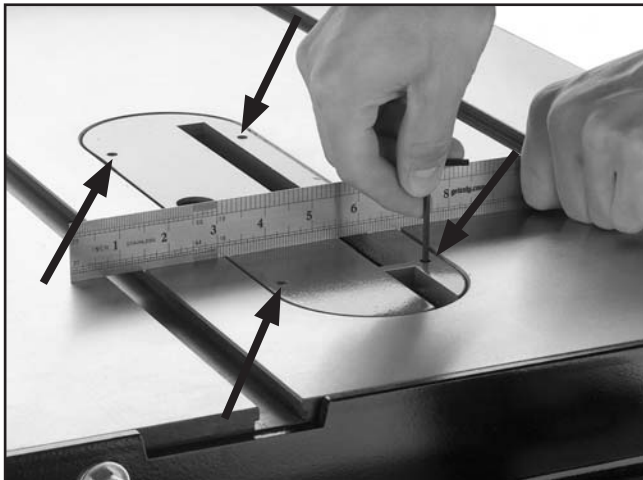

Figure 25. Adjusting set screws on each corner of insert.
3. Using a 3mm hex wrench, raise or lower each of the four set screws shown in **Figure 25** until the insert is flush with the table top. Use a straightedge to make sure the table insert is flush with the top of the table.